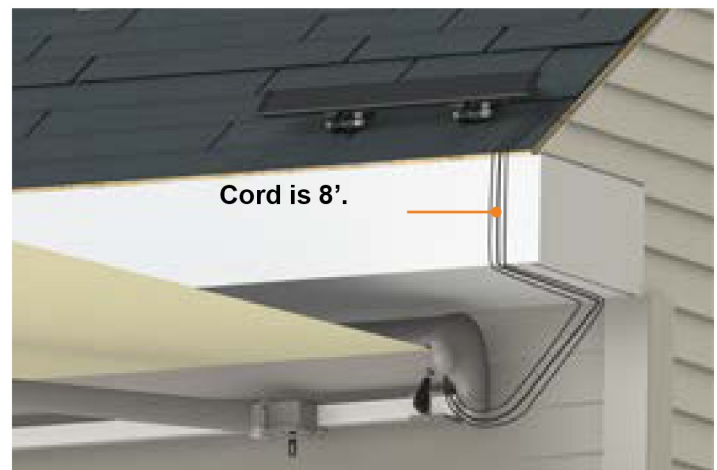

Fig.6
- There are up to 8' of cords included. Mount the solar panel within 8' of the awning, making sure to account for routing the cord around any corners (Fig. 6). See **Wiring Diagram** on page 38.